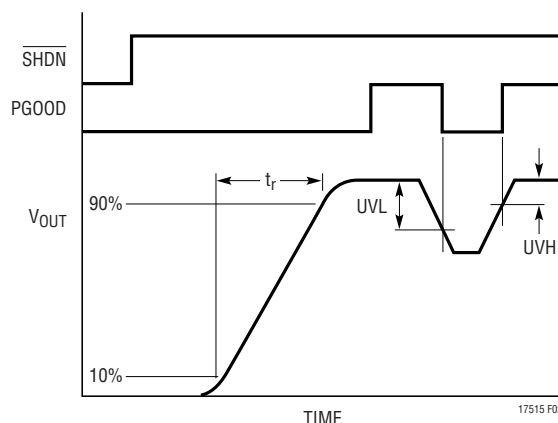

Figure 2. PGOOD During Start-Up and Undervoltage
**Note 6:** See Figure 2.
Once the LTC1751-3.3/LTC1751-5 are enabled via the  $\overline{\text{SHDN}}$  pin,  $V_{OUT}$  ramps to its final regulation value slowly by following the SS pin. The PGOOD pin switches from low impedance to high impedance after  $V_{OUT}$  reaches its regulation value. If  $V_{OUT}$  is subsequently pulled below its correct regulation level, the PGOOD pin pulls low again indicating that a fault exists. Alternatively, if there is a short circuit on  $V_{OUT}$  preventing it from ever reaching its correct regulation level, the PGOOD pin will remain low. The lower fault threshold, UVL, is preprogrammed to recognize errors of -7% below nominal  $V_{OUT}$ . The upper fault threshold, UVH, is preprogrammed at -4.5% below nominal. Figure 2 shows an example of the PGOOD pin with a normal start-up followed by an undervoltage fault.